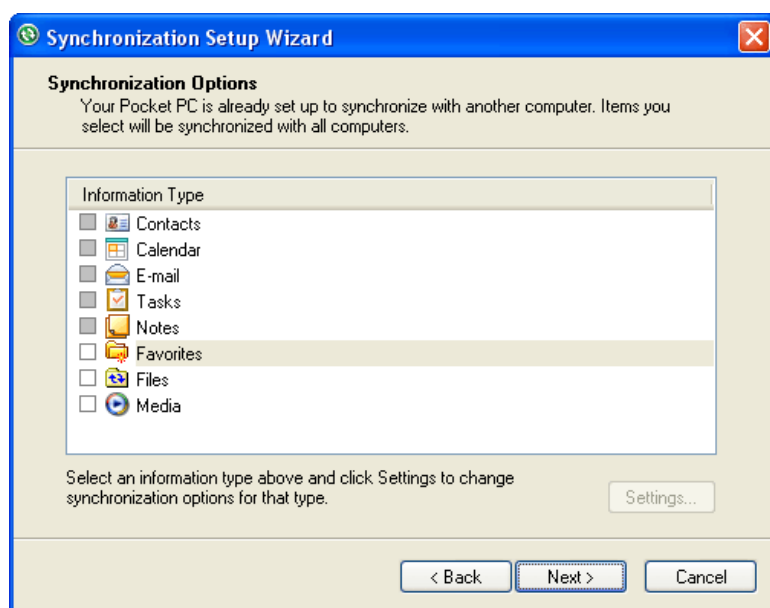

Figure 54. Unmark All Synchronization Options.
- 3) Connect the Micro-trans-SPEC’s USB port to the computer. If this is the first time the Micro-trans-SPEC has been connected to this computer, Windows will display a series of “Found New Hardware” messages indicating a mobile device (e.g., the Micro-trans-SPEC computer) has been detected. The Synchronization Setup Wizard will start. Follow the wizard prompts for a standard partnership according to step (4).
- 4) On the Synchronization Options screen, **unmark ALL checkboxes, scrolling down as needed to ensure all items have been deselected** (Fig. 54). This will prevent the host computer and Micro-trans-SPEC from automatically exchanging files.